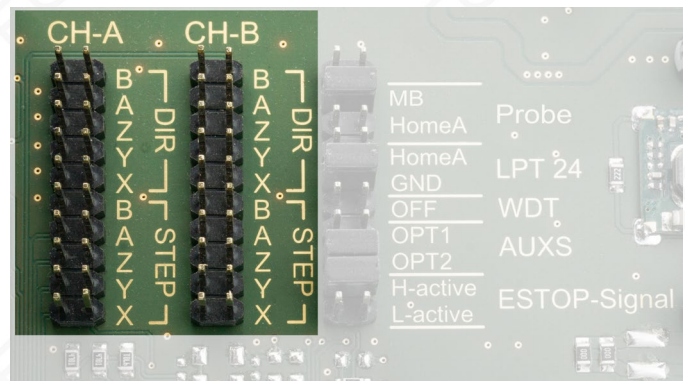

Fig. 35: The jumpers on the motherboard
- If necessary, first remove the existing other modules so that you have unhindered access to the jumpers on the MC Bob (Fig. 35).